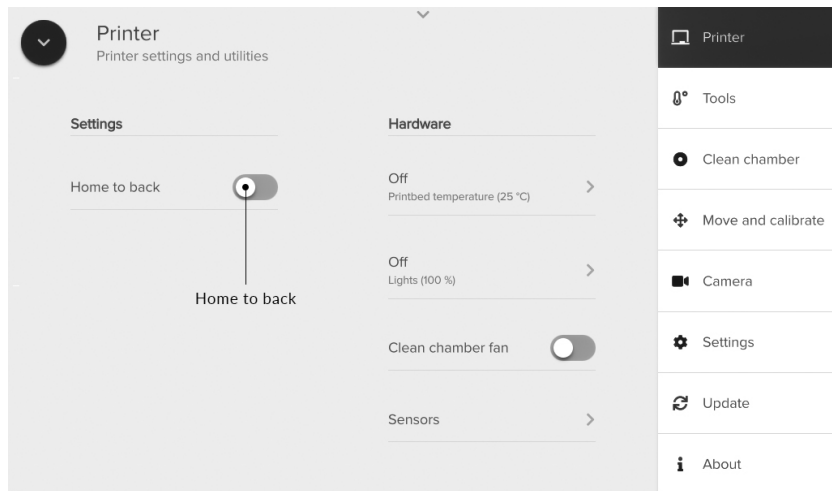

Figure 4: Calibrating the BIO X system for the Syringe Printhead.
4. Go to the Printer menu and enable "Home to back" to allow the system to measure the Y-axis (Figure 4).